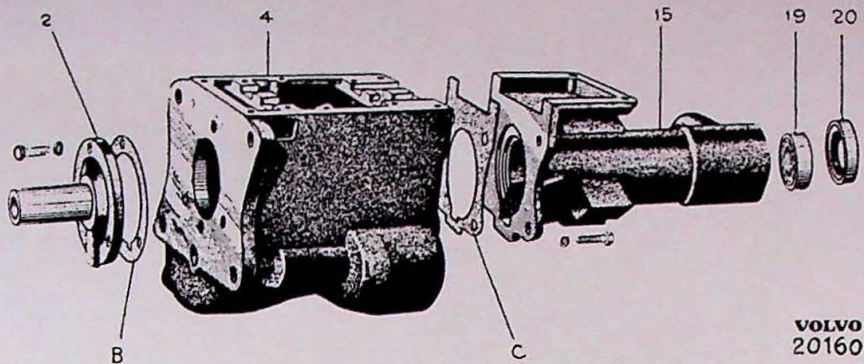

Fig. 18.
3. Install rear bearing (19), fig. 18, by means of driver SVO 4113 and the oil seal (20) by means of driver SVO 4029 (text side facing inwards).
1. Fit gasket (C), fig. 18. on the front faying surface of rear housing.
1. Install main drive pinion (1) complete with bearings in gearbox housing.
2. Fit gasket (B), fig. 18. and bearing cover (2). See that oil channel in cover is lined up with the drain plug hole in the gearbox front.